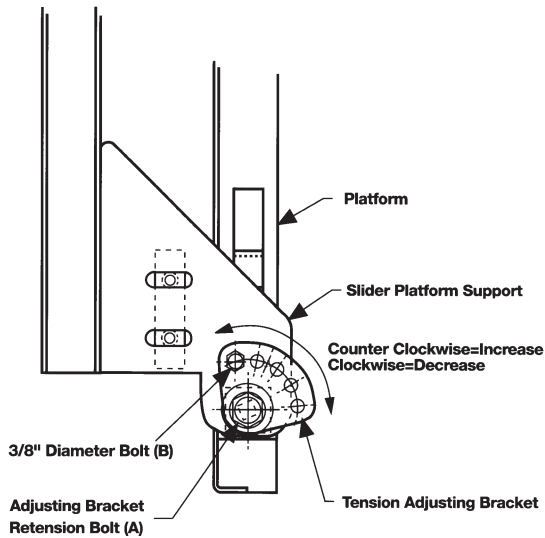

Fig.3
12. Torsion bar adjustment (See figure 3).
- B. Remove 5/8" diameter bolt (A) from center of tension adjusting bracket.
- D. Turn breaker bar clockwise to relieve tension on 3/8" diameter bolt (B) and remove it from the bracket.
- E. To increase tension, rotate bracket counterclockwise until desired tension is reached. Line up hole in bracket to hole in slider platform support and replace bolt (B).